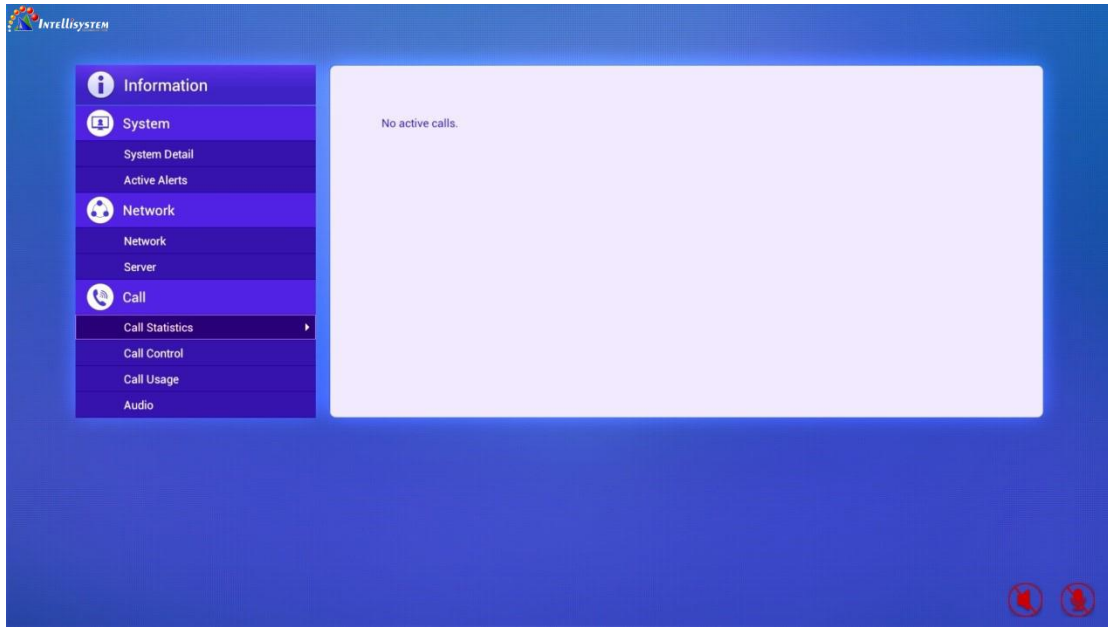

Figure 6-5-1
- When the terminal is in the call, it displays the detail information of terminal call connection, as Figure 6-5-1 shows.